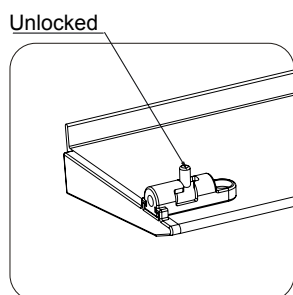

Figure 24
- 1) Please ensure the security lock is unlocked (figure 24 and 22).